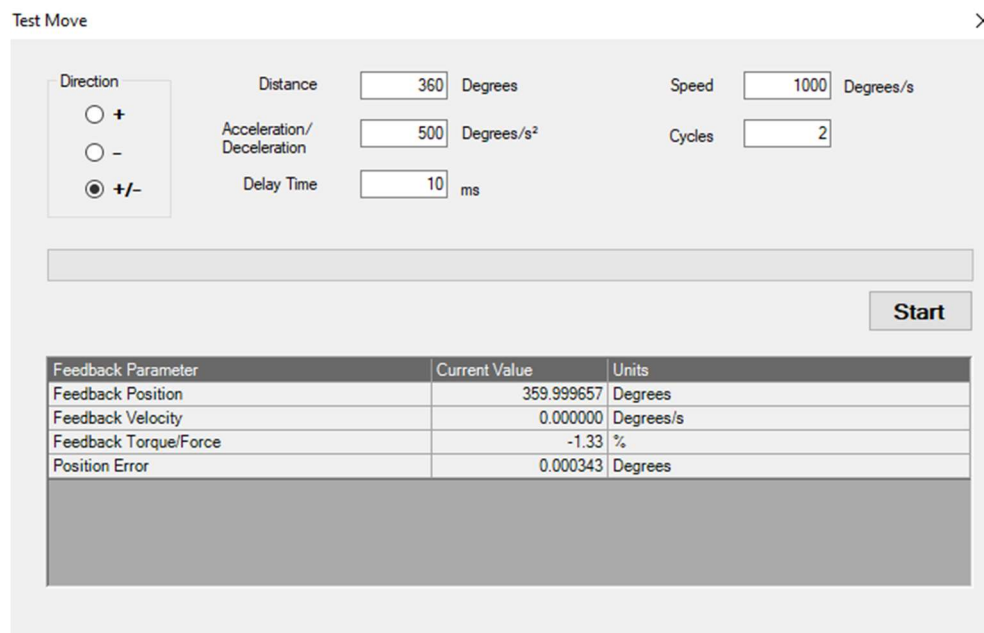

Figure 7: Test Move Setup Window
- Configure your Test Move Setup Window to look like Figure 7, then click start.